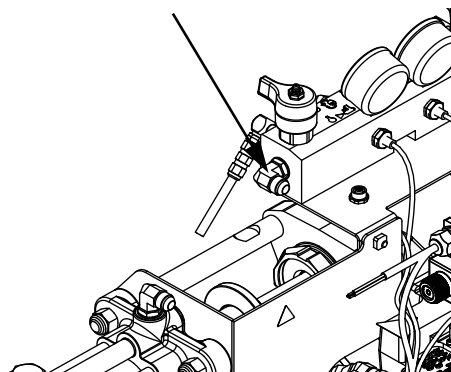

**FIG. 4**
4. See FIG. 4. Remove four nuts (188) securing hydraulic driver to hydraulic power pack. This will also loosen manifold plate (104) from hydraulic driver. Remove manifold plate. Remove hydraulic driver.